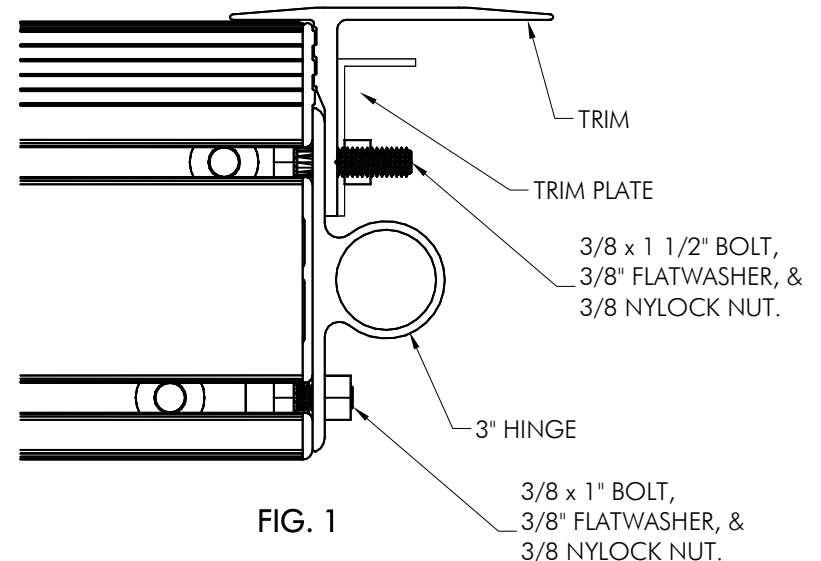

FIG. 1
- SLIDE REQUIRED AMOUNT OF 3/8 x 1 1/2" BOLTS W/ FLATWASHERS INTO UPPER NUT TRACK. SLIDE (8) 3/8 x 1" BOLTS W/ FLATWASHERS INTO LOWER NUT TRACK. ALIGN 3/8 x 1 1/2" BOLTS WITH HOLES IN TRIM & TRIM PLATE. SEE FIG. 1